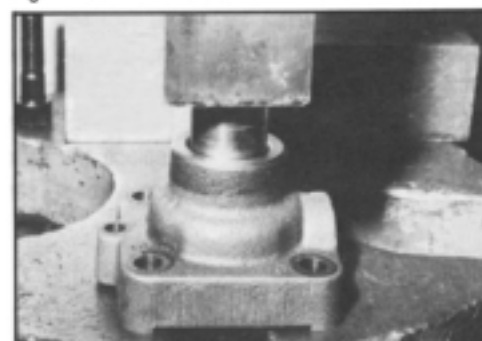

Figure 87
38. Press bearing (5) out of upper cover (7) with a bearing mandrel against seal end of bearing and only if it is to be replaced. Discard bearing. SEE FIGURE 87.